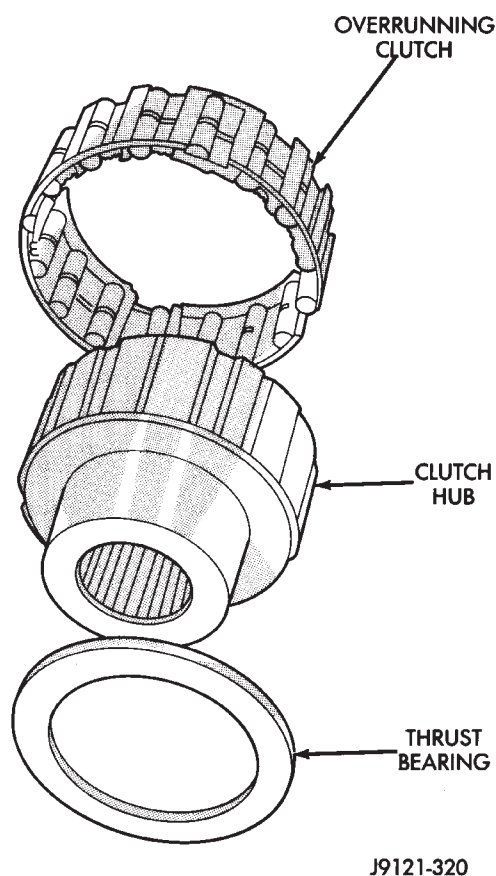

Fig. 28 Overrunning Clutch Components
(18) Remove thrust bearing from overrunning clutch hub (Fig. 28).
(19) Remove overrunning clutch from hub (Fig. 28).